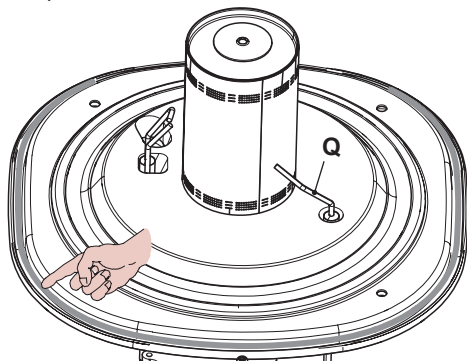
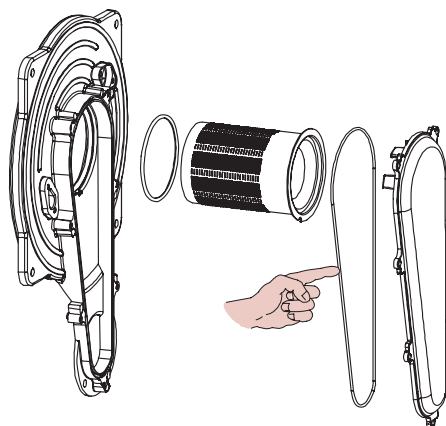

Fig. 10.14
Fig. 10.15
- The silicon seal on the front wall of the combustion chamber Fig. 10.14 and the seal on the air/gas pipe cover (Fig. 10.15) must be replaced if worn.
- The detection electrode **Q** in Fig. 10.14 also functions as a sensor for the correct drainage of the condensate. Should the mentioned electrode come into contact with the condensate water present within the combustion chamber it sends the boiler into safety lockout. Therefore, should the insulation be wet or deteriorated, provide for the substitution of the same.
**Caution:** After any periodical servicing or disturbance the combustion chamber silicon seal Fig. 10.14 and the Air-gas duct gasket (Fig. 10.15) must be fully inspected and replaced at the discretion of the service engineer.